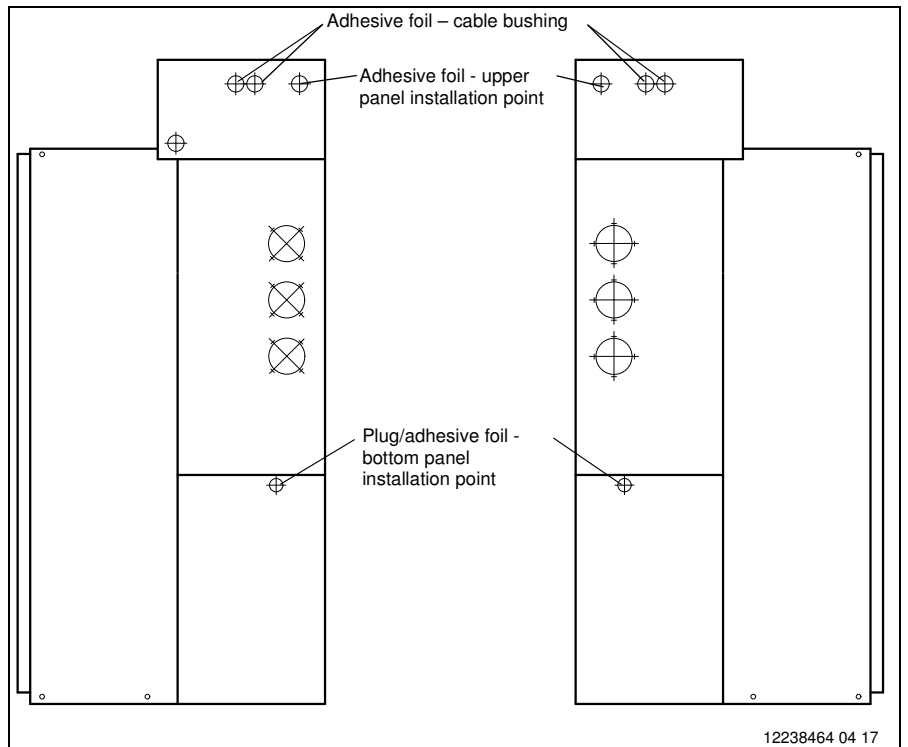

Fig. 25
7. Remove all adhesive foils from the openings of the cable bushings (Fig. 25).
- Remove the adhesive foils from the top and bottom panel installation points (Fig. 25).